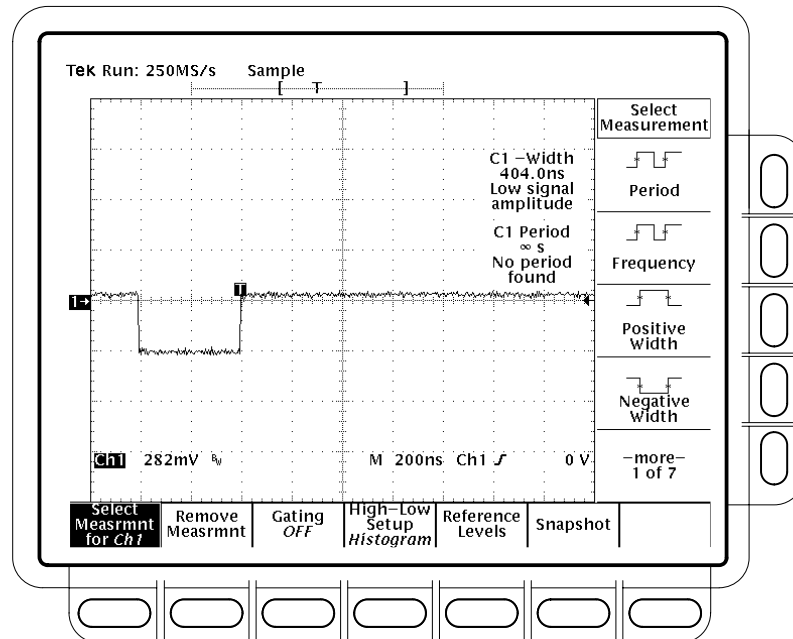

Figure 1–39: Sync duty cycle test: one-div neg pulse waveform
- Turn the pulse generator **PERIOD** variable control to adjust the period until the oscilloscope **CH1 Period** measurement reads **21.000µs -25/+50 ns**. See Figure 1–40. Read note shown below.